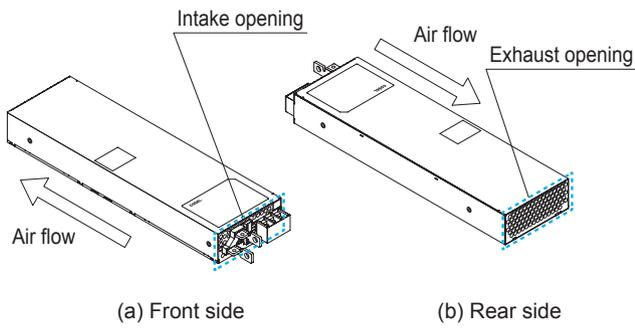
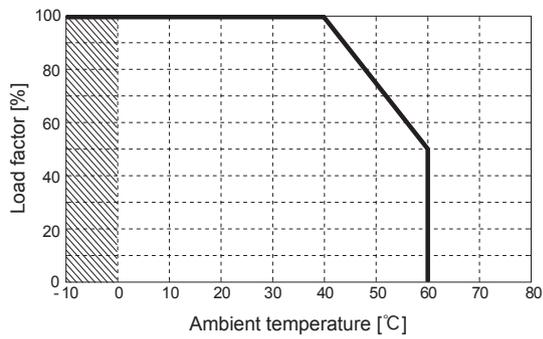

Fig.5.1 Location of intake port and exhaust port
Fig.5.2 Ambient temperature derating curve
- Differences from standard products are shown in Fig.5.1 and Fig.5.2.